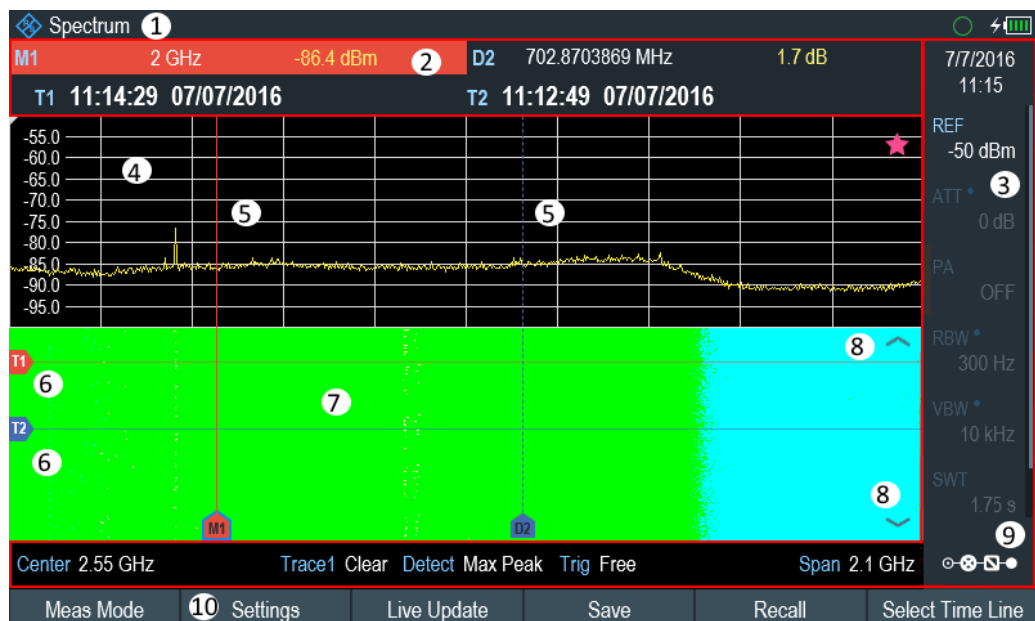

Figure 8-8: Screen layout for the spectrogram
5. To evaluate the measurement result, scroll up and down on the spectrogram scrollbar icon (see index 8 of Figure 8-8) to the frame that you are interested to view.